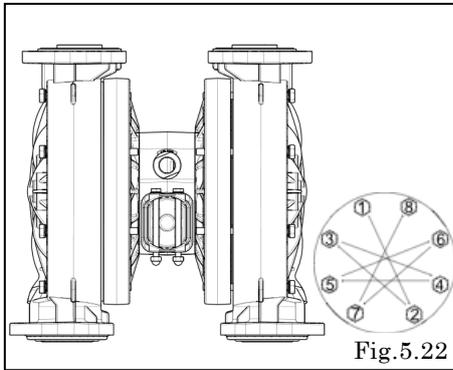

Fig.5.22
- Tighten the bolts on the out-chambers (please refer to the previous chapter 'Tightening torque for out-chambers' [Fig.5.22]).